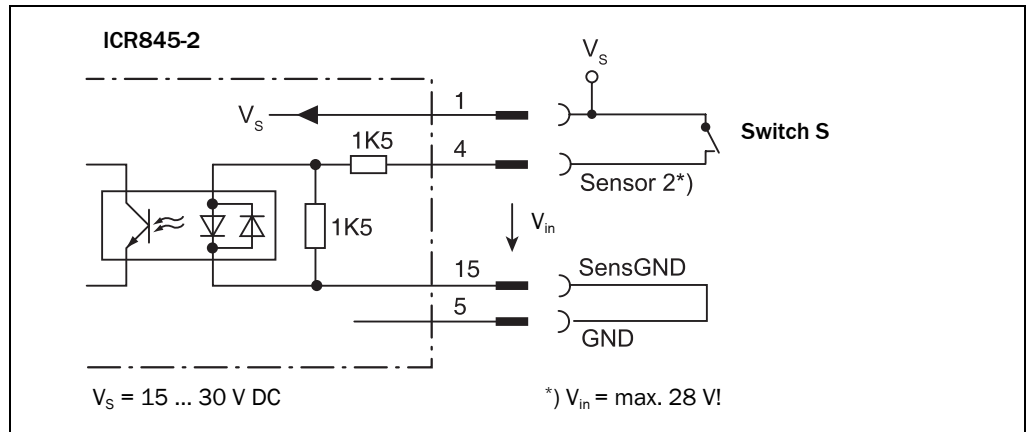

Fig. 10-17: Wiring the "Sensor 2" switching input for triggering the teach-in of match code 1 and for automatic activation of the code comparison
For teaching in match code 1 via the "Sensor 2" switching input, a switch must be connected (Fig. 10-17) and the functional assignment of the switching input, the teach-in mode and, if necessary, other settings must be done with the CLV-Setup configuration software.
2. Connect the switch in the CDB620 or CDM420 Connection Module at the "Sensor 2" switching input of the ICR845-2 as shown in Fig. 10-17, Page 152.